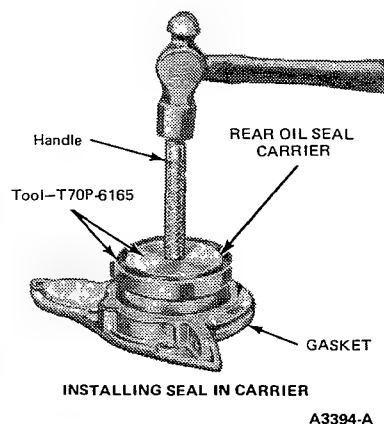

FIG. 40 Installing Crankshaft Rear Oil Seal
1. Install a new crankshaft rear oil seal using Tool No. T70P-6165 (Figure 40).